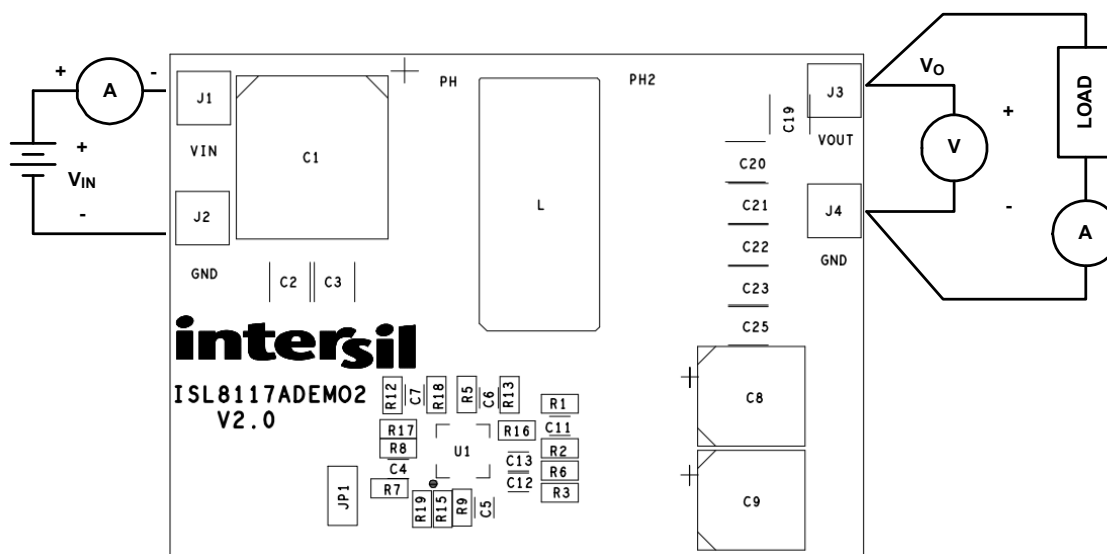

FIGURE 3. PROPER TEST SETUP
1. Ensure that the circuit is correctly connected to the supply and electronic loads prior to applying any power. Refer to Figure 3 on page 3 for proper setup.
As shown in Figure 3, 6.5V to 42V V_{IN} is supplied to J1 (+) and J2 (-). The regulated 12V output on J3 (+) and J4 (-) can supply up to 3A to the load.